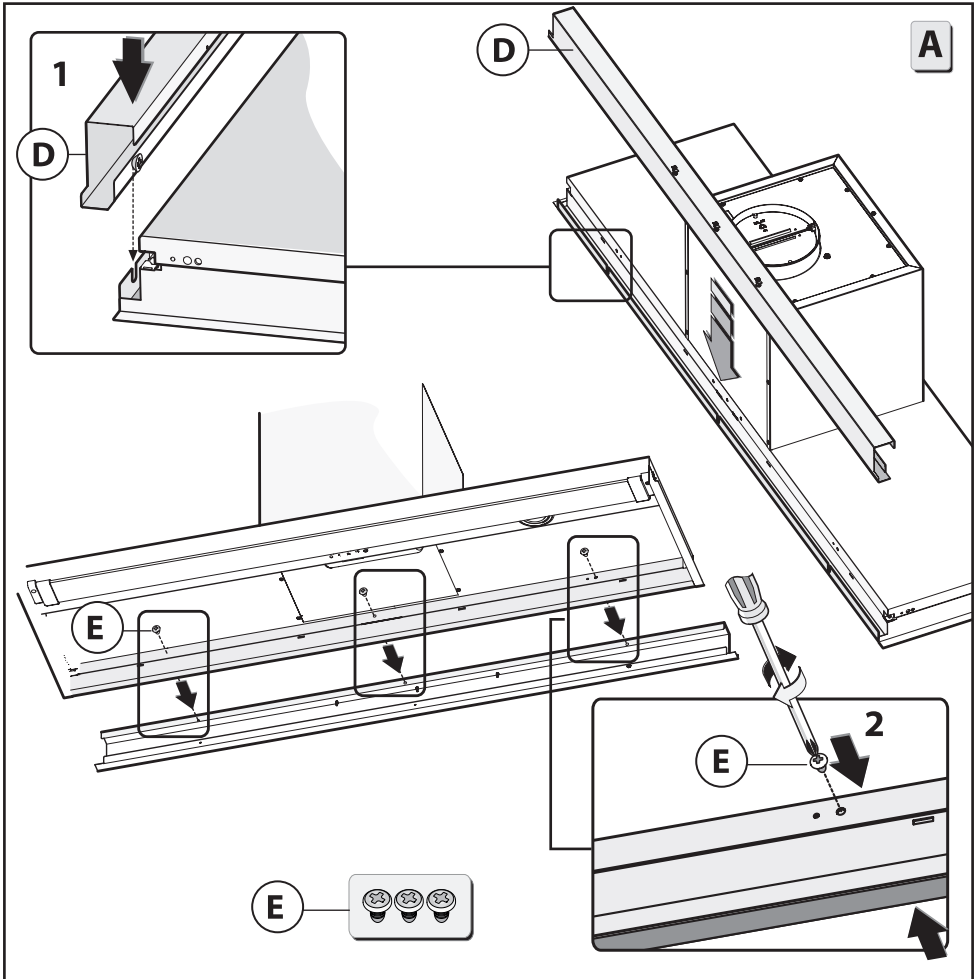

Fig.7
- **Installation of the spacer Fig.7:**
Fit the spacer **D** on the rear slot of the hood as shown in figure 7 – phase 1 and fasten it with the 3 screws **E** figure 7 – phase 2.